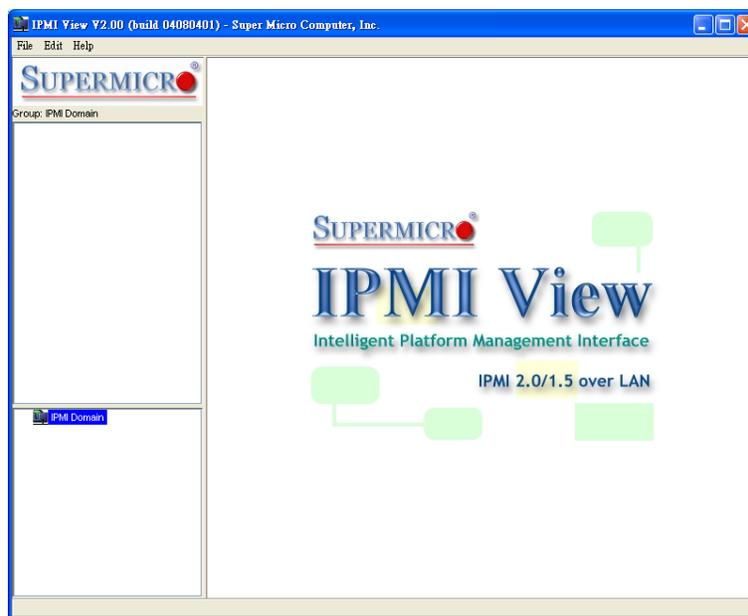

Figure 7: IPMIView main screen
- b) After opening the program, you should see the Figure 7 screen below.